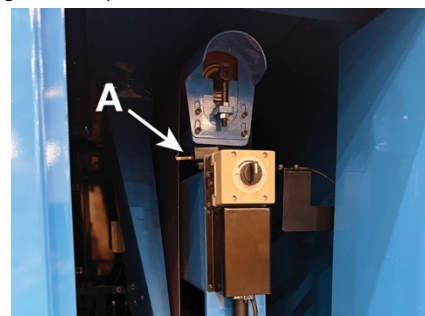

Figure 9-20
Refer to Figures 9-20 and 9-23.
1. Open the side access door on the electrical panel end of the machine and remove the side access panel on the opposite end of the machine to access the mistracking limit switches (see A, Figure 9-20).